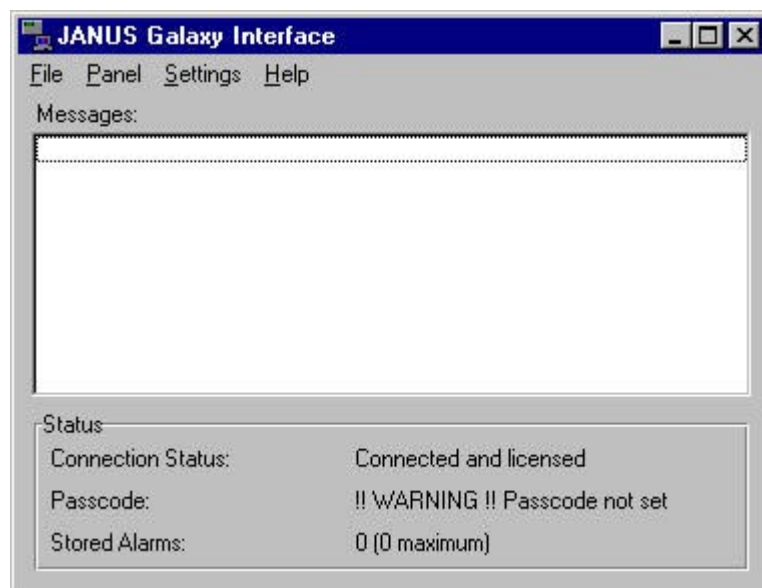

Figure 2. The main window
2. The application will open to display the main window as shown in **Figure 2**. See the **Main dialog** section for a more detailed description.